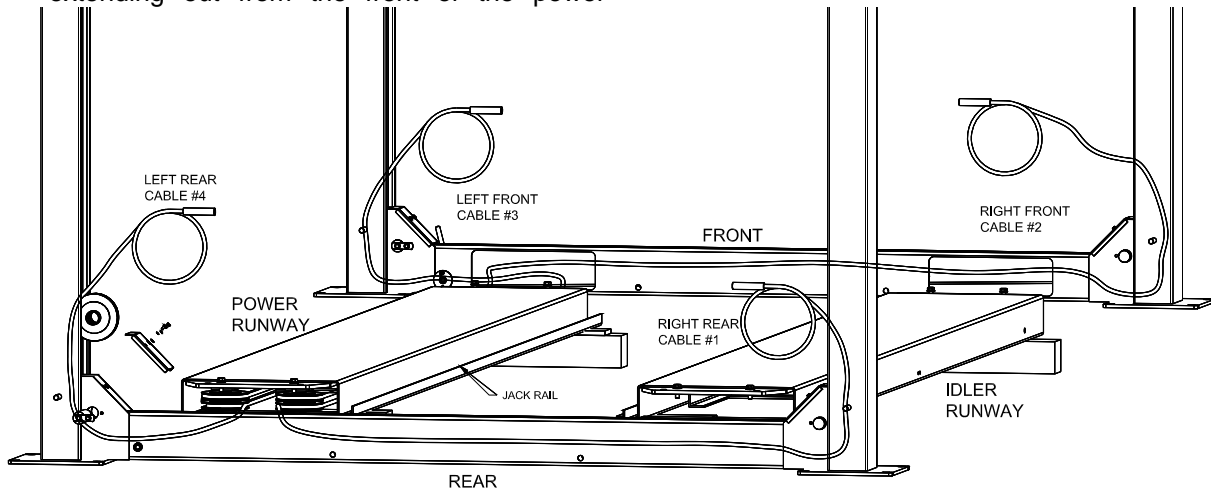

Fig 9 – Runway Layout
- 2) Unpack lift. Remove all packaging from Power Runway (power runway has four cable sheaves at rear end) and pull threaded cable ends out. Make sure the cables are in the proper sheaves at the 4-stack, **Fig 9**.
- 10) Position runways on blocking (*see Fig 9*) per layout lines established in step 1. Use four 30" long 4x4's spanning the width of the runway and four 12" long 1x4's to shim up the jack-rail side of the runway. Cable #1 & #2 should be extending out from the front of the power
runway and cable #3 & #4 from the rear of the power runway, **Fig 9**.